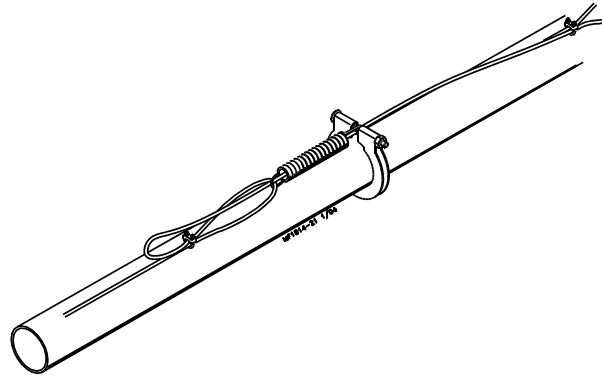

Figure 37. Hopper End Spring Installation
6. There is not enough room between the feed hopper and the first feeder pan to attach and stretch the spring. Install the spring in between the first and second pan after the hopper. Then route the cable back to the first pan and attach to the feed tube cable assemblies, see **figure 37**.